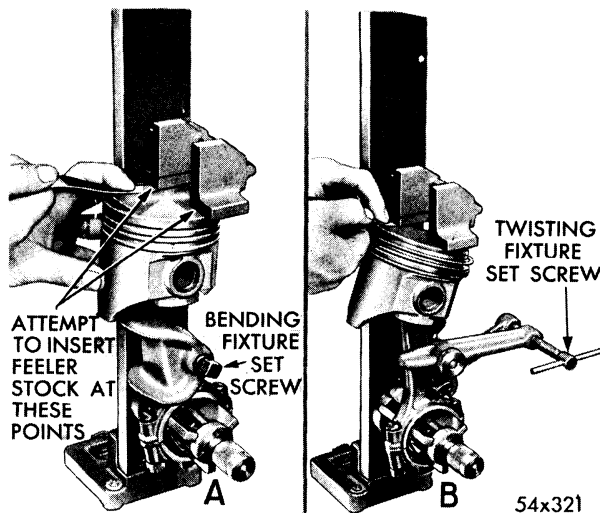
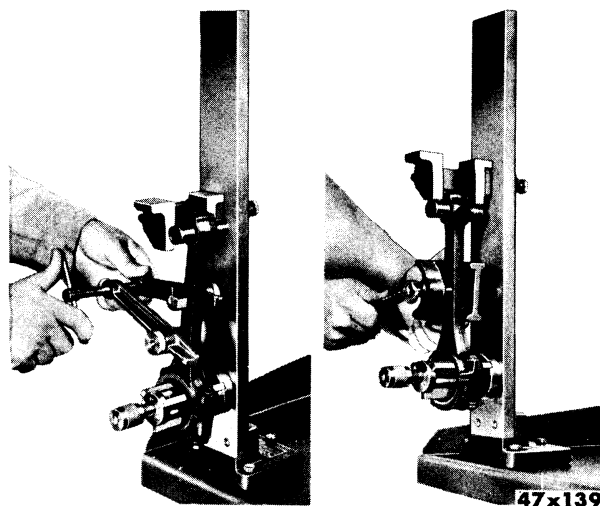

Fig. 41—Checking Connecting Rod and Piston For Alignment (Typical)
Fig. 42—Correcting Connecting Rod For Bend or Twist
- (1) Check for Bend—Install the connecting rod and piston, as shown in Figure 41. The top of the piston should be flush with the tool. The clearance between the piston and tool, at the point shown in "A," should be zero (0); however, a .002 inch variation is allowable. If more than .002 inch, the piston and connecting rod should be disassembled and the rod straightened or replaced. (See Fig. 42).
- (2) Check for Twist—With the connecting rod and piston assembly installed in fixture C-481, tilt the piston, as shown in Figure 41 "B." The clearance between the tool and the top of piston should be zero (0). However,